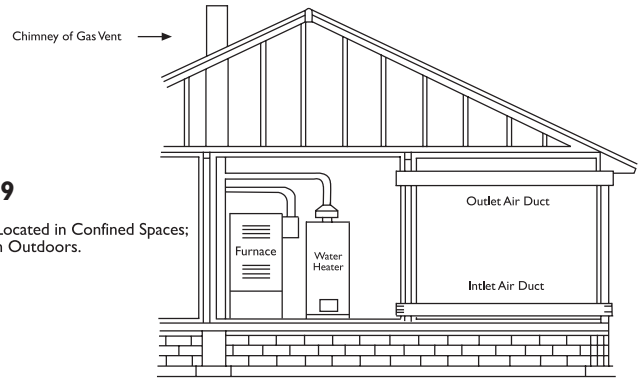

Figure 9
1. When communicating with the outdoors through horizontal ducts, each duct opening shall have a minimum free area of 1 square inch per 2,000 BTU per hour of total input rating of all equipment in the enclosure. (figure 9)